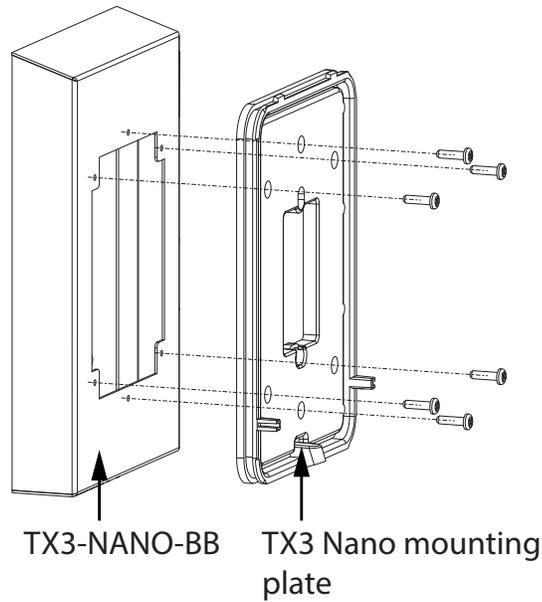

Figure 6. Install the mounting plate to TX3-NANO-BB
3. Attach the TX3 Nano mounting plate over the TX3-NANO-BB with the included 6 screws as shown in Figure 6.